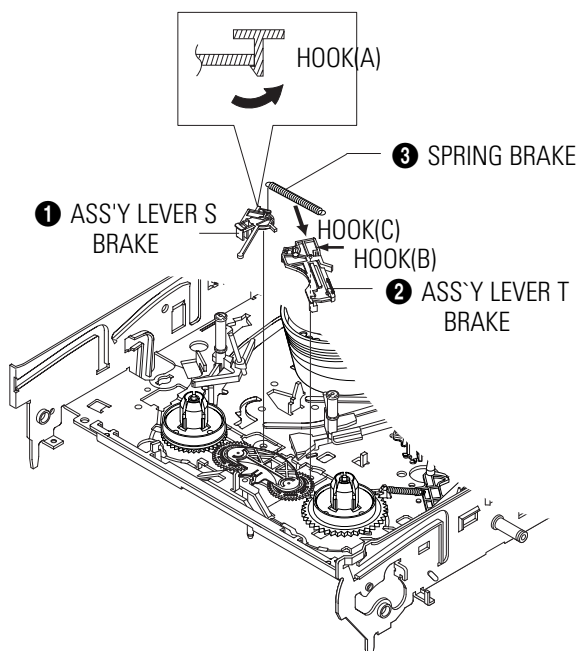

Fig. 5-25 Ass'y Lever Brake S, T Removal
- 1) Remove the Ass'y Lever Brake S (Refer to Fig 5-25).
- 2) Remove the Spring Tension Lever ❶.
- 4) Lift the Ass'y Lever Tension ❷ & Ass'y Band brake ❸.
- 1) Release the Hook [A] and the Hook [B], [C] in the direction of arrow as shown in Fig 5-25.
- 2) Lift the Ass'y Lever S, T Brake ❶, ❷ with spring brake ❸.